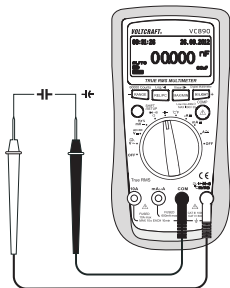

Fig. 8
2. Insert the red test lead in the $\text{^{\circ}CHzV}\Omega$ measuring socket (7), the black test lead in the COM measuring socket (8) (Fig. 8).